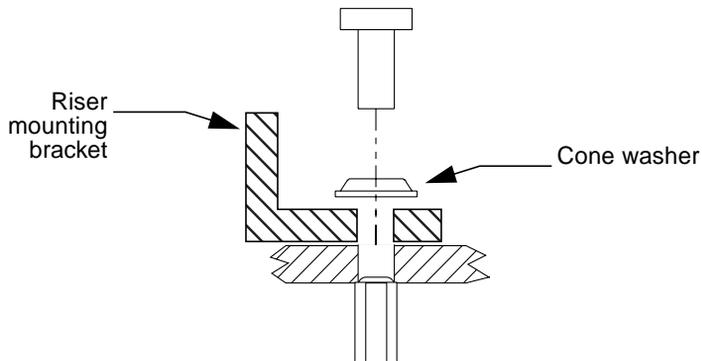

**FIGURE 14** Tightening Pattern for the PCI I/O Module
5. Tighten the captive connector screws to a low torque of 0.34 Nm (3.0 inch pounds) in the pattern noted in FIGURE 14 on page 14.
**6. Tighten the captive connector screws to a final torque of 0.68 Nm (6.0 inch pounds) in the pattern noted in FIGURE 14 on page 14.**